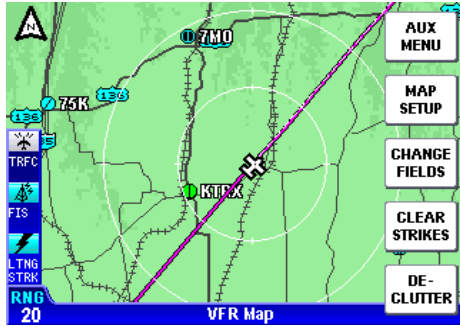
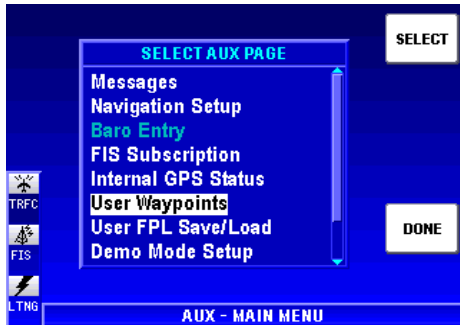

Figure 1-66
Figure 1-67
1. Press the **MENU** Key to display Figure 1-66. Press the **AUX MENU** Softkey to display Figure 1-67. Use the Joystick or Rotary Knob to place the cursor over **User Waypoints** as seen in Figure 1-67.